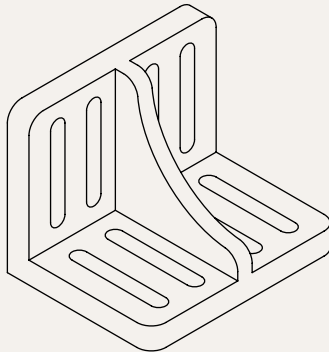

Fig. 7.30 An isometric drawing of the angle plate on which exercises 6 and 7 are based
7. Construct an isometric drawing of the angle plate shown in Figs 7.30 and 7.31.